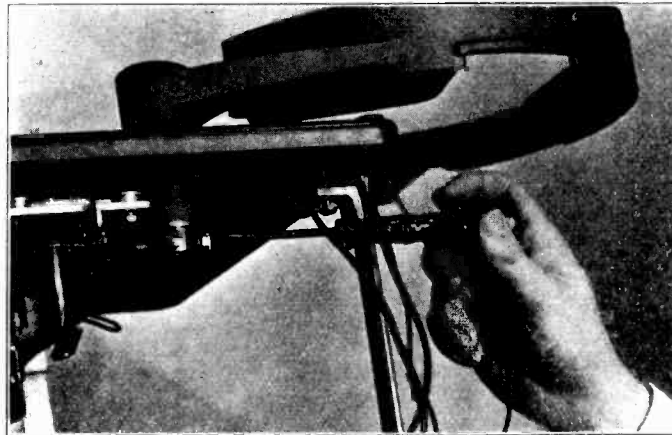

Figure 10—Adjusting Magazine
- (b) *Improper Setting of Magazine*—The horizontal swing of the magazine should be so adjusted when the mechanism is out of cycle that the outer surface at its nearest point to the nearest side of the turntable spindle is  $5\frac{1}{2}$ ". This can be done by loosening the two screws as shown in Figure 10, moving the magazine to its correct position and retightening the screws.